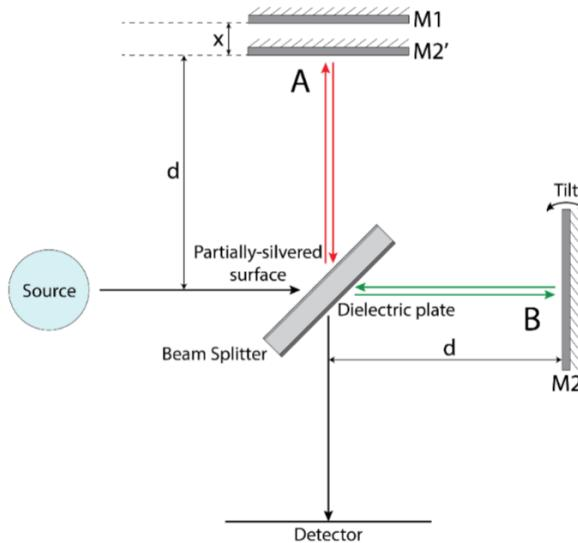
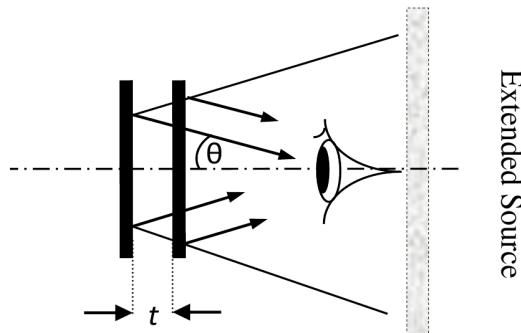

Figure 1: A diagram of the Michelson interferometer setup.
Figure 2: Simplified model of a Michelson interferometer.
The basic layout of a Michelson interferometer is shown in Figure 1 below. The Michelson interferometer is a division-of-amplitude interferometer. Light is emitted from the source and is split into two beams by a partially-silvered mirror (beamsplitter). The reflected beam (A) travels to a mirror (M1), and the transmitted beam (B) travels to another mirror (M2). Both beams are reflected at their respective mirrors, and upon returning undergo a partial reflection and recombination at the beamsplitter. Adjusting the tilt of M2 along the vertical (as shown in the figure) and horizontal axes enables overlapping of the reflections from M1 and M2 at the plane of the detector (or screen) and fine geometric alignment of the interferometer. Beam splitting and recombination can also be performed with a beamsplitter cube, as used in our lab. This beamsplitter exploits the phenomenon of frustrated total internal reflection to produce the transmitted and reflected beams, but this does not affect the analysis below.
Consider first using an **extended source** and setting the mirrors at right angles to each other. A convenient construction, sketched in Figure 2, makes drawing ray diagrams easier. Referring first to Figure 1, looking into the instrument, mirror M2 appears to be at the position of M2'.
If the arms differ in length by t (please note that t denotes a distance here, and not a time delay), an observer imagines seeing the light originating from an extended source (behind him/herself) being reflected from two mirrors separated by this distance t (see Figure 2). In this fictitious construction, the mirror nearest to the eye appears to both let the light travelling to the far mirror through unimpeded and also to reflect it!